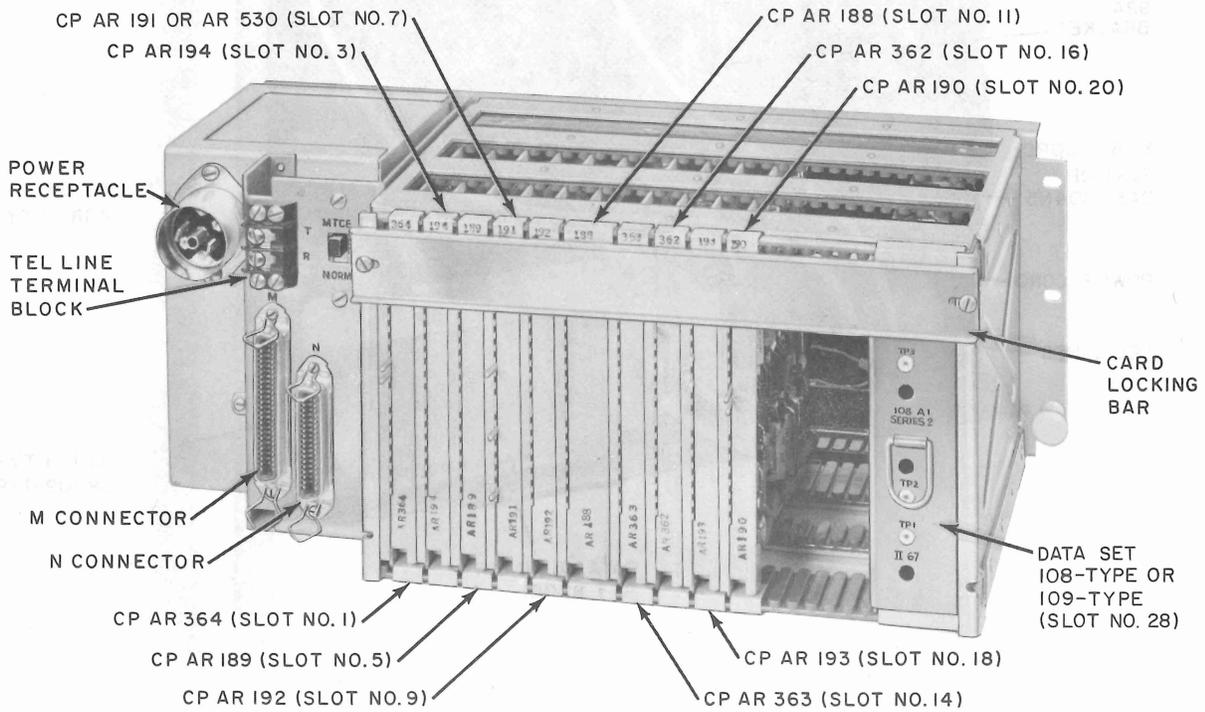

Fig. 8—Data Auxiliary Set 820G1—Circuit Pack Location and Designation
**2.11** Verify that the proper circuit packs (CPs) are installed in the DAS 820G- and 820J-type. Refer to Fig. 8, 9, 10 and Table A for the circuit pack location and designation.